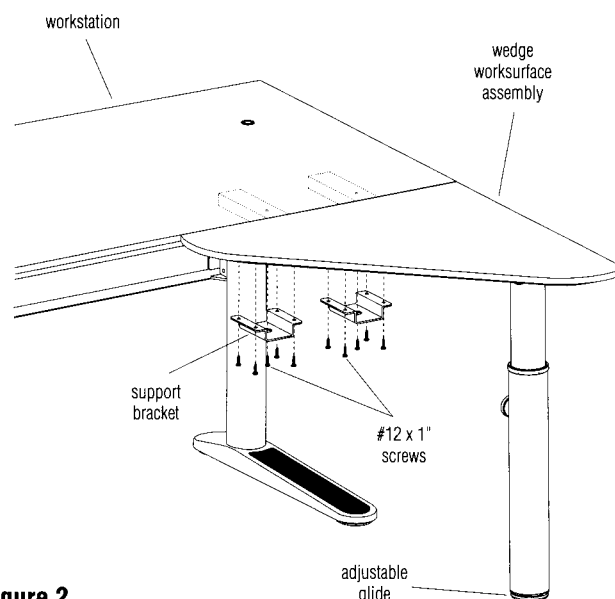

Figure 2
4. Turn the wedge worksurface assembly right side up and position at the location where it is to be assembled to the workstation. Attach the support tubes and the support brackets to the underside of the workstation using ten #12 x 1" screws (Figure 2).
5. Make final height adjustments to the telescoping leg using the hand knob and/or the adjustable glide (Figure 2).